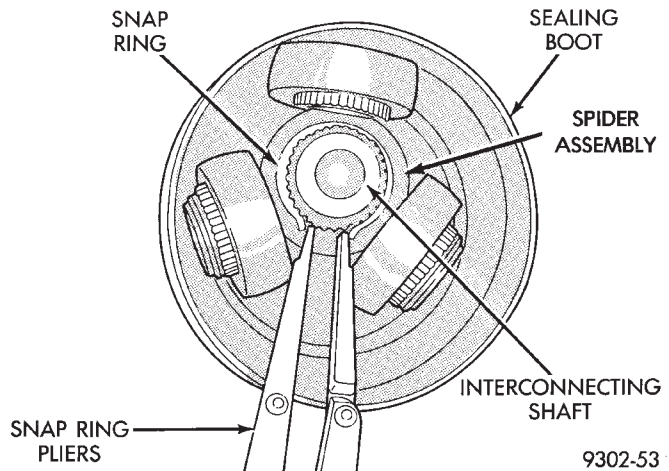

Fig. 25 Spider Assembly Retaining Snap Ring Removal
(4) Remove snap ring which retains spider assembly to interconnecting shaft (Fig. 25). Then remove the spider assembly from interconnecting shaft. If spider assembly will not come off interconnecting shaft by hand, it can be removed by tapping the end of the spider body with a brass drift. **Do not hit the outer tripod bearings in an attempt to remove spider assembly from interconnecting shaft.**